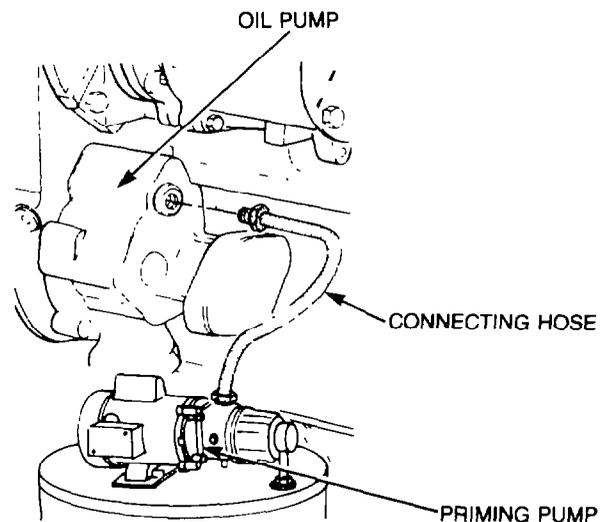

Figure 57 — Oil Crossover Passage — Priming
- ct. Remove the pipe plug from the oil pump cover (see Fig. 57), then install a suitable priming pump with a supply of clean engine oil and pressurize the oil crossover passage to 210 Kpa (30 psi).